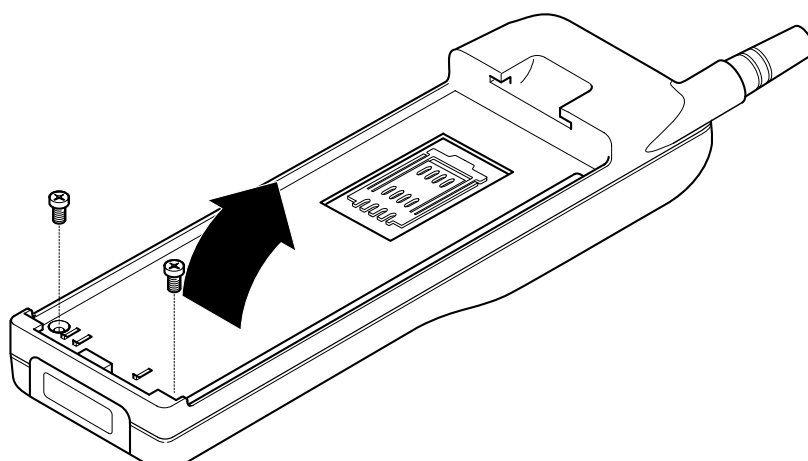

Figure 2: Case disassembly
- Figure 2 Remove the back cover of the telephone case. 2 screws